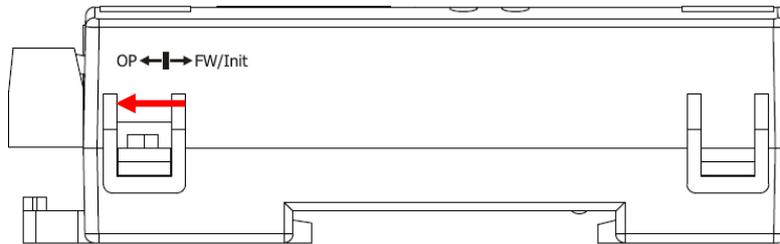

Figure 2-1 Push DIP switch to OP position
Push DIP switch to the position of normal operation mode (OP) as depicted in Fig. 2-1.